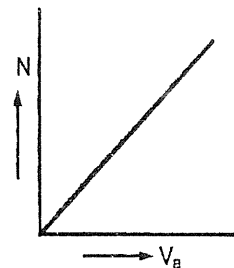

FIG. 4.41 : SPEED-ARMATURE VOLTAGE CHARACTERISTIC
- Fig. 4.41 shows the speed V/S armature voltage characteristic. It is a linear curve. As the armature voltage is increased, the speed increases.